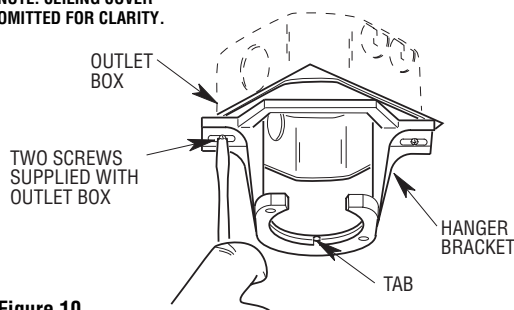
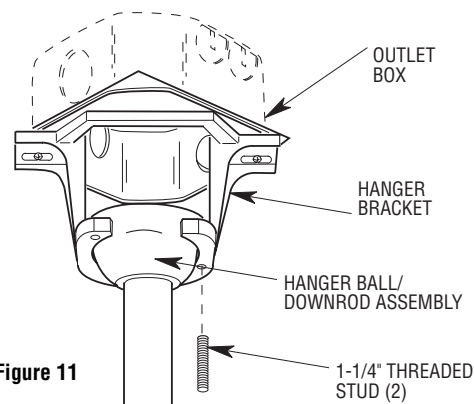

Figure 10
Figure 11
The fan must be hung with at least 7' of clearance from floor to blades (Figure 10).
1. With the branch circuit electricity turned off at the breaker panel or fuse box, securely attach the hanger bracket to the outlet box using the two screws supplied with the outlet box. (Figure 10.)
2. Carefully lift the fan and seat the hanger ball/downrod assembly onto the hanger bracket that was just attached to the outlet box (Figure 10). Rotate the entire fan assembly until the ball groove engages the anti-rotation tab. Be sure the groove in the ball engaged the anti-rotation tab on the hanger bracket (Figure 11).